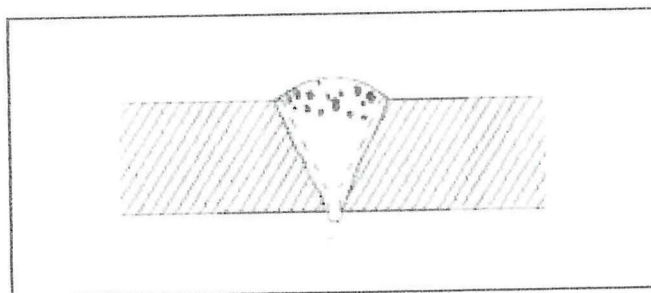
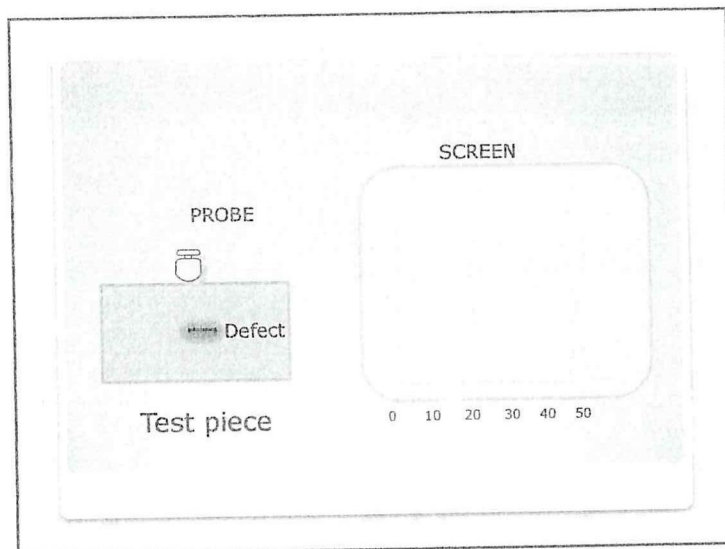

Figure Q2(c): Front view of cross-section
Figure Q3(c)
(c) Figure Q2(c) illustrates a type of defect in a welding product.
- (i) What type of defect is shown in Figure Q2(c)? (2 marks)
- (iii) State three (3) advantages of the suggested test. (3 marks)
- (b) In penetrant testing (PT), penetrant should have good properties in order to produce high quality outcome.
- (c) An internal defect of a product is inspected using ultrasonic testing method. Figure Q3(c) shows the output on the screen of the test equipment.